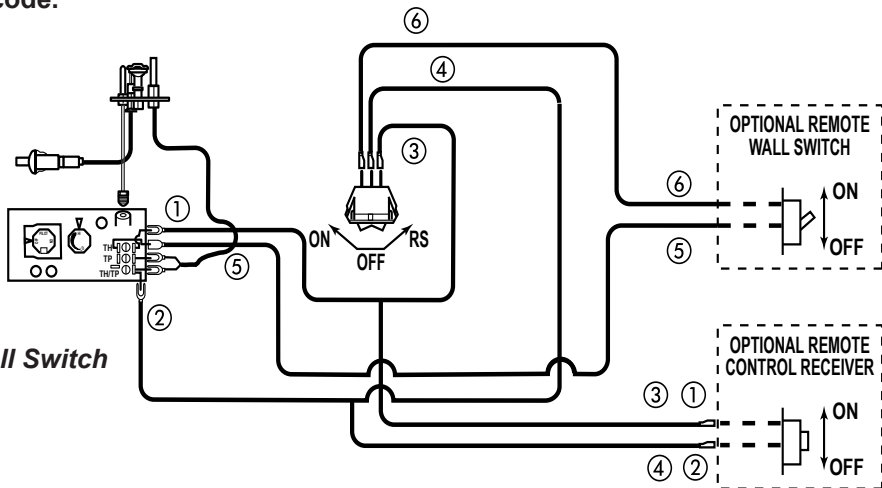

Figure 34 - Wiring Diagram for Wall Switch
A remote wall switch and up to fifteen (15) feet of 18 Ga. wire may be used with this appliance. Attach the wall switch in a junction box at the desired location on the wall. *Figure 34*. Do not extend beyond the wall switch wire length provided.